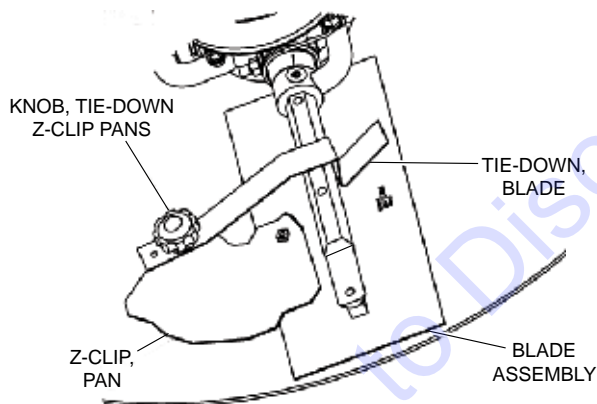

Figure 43. Z-Clip Finisher Pan Installation
Refer to Figure 43 when installing pans onto finisher blades.
3. Attach the blade tie-downs to the far side of the Z-Clip brackets with tie-down knobs as shown in Figure 43.